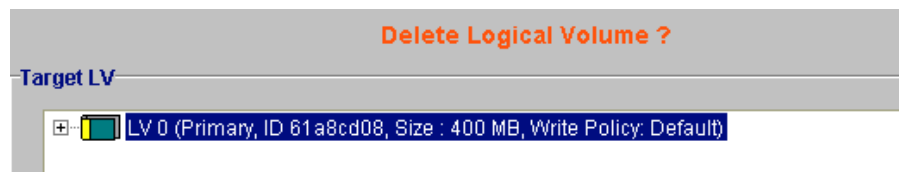

Figure 8-54: Delete LV
Step 4. Once the “*Delete*” tab has been selected the “*Delete Logical Volume*” window shown in *Figure 8-54* will appear in the content panel.